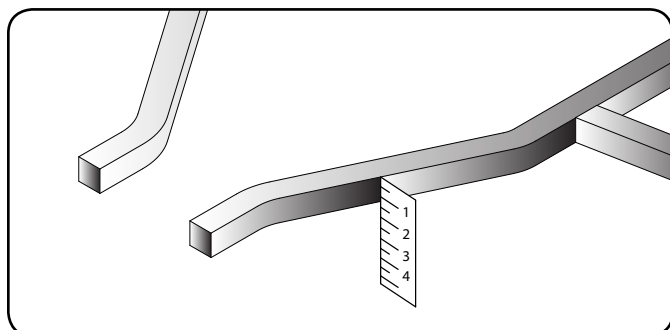

Figure 23 - Frame Measurement
1. Measure the thickness of your tube frame and skid plate (if installed), see Figure 23. Then cut the provided rubber spacers to a  $\frac{1}{4}$  in. (6.4 mm) longer than the thickness of the tube frame.